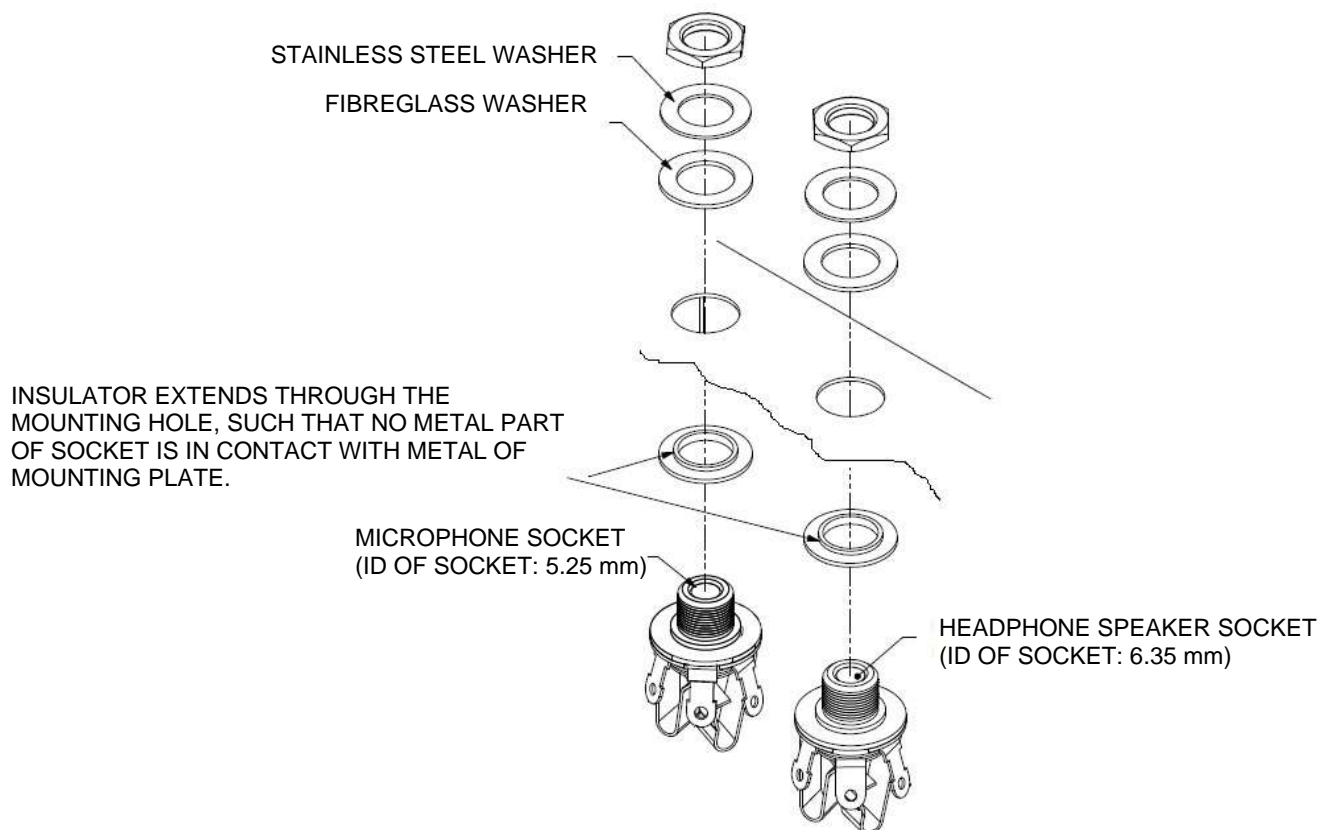

Figure 64: Headphone socket installation.
- Observe the correct washer / insulator placement (refer to Figure 64).